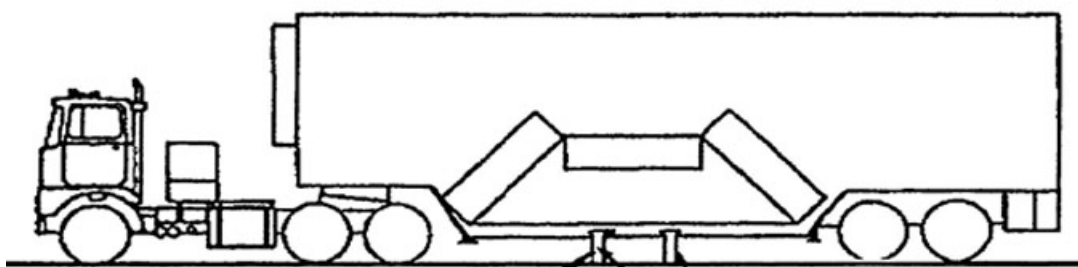

Figure 2-22. PT van.
Transferring the RS to the facility pit is how we prepare the RS to be uploaded by the missile maintenance team (MMT). After we load the RS into the pit, the MMT uploads it into a payload transporter (PT) van (fig. 2-22) and convoys it to a missile site.